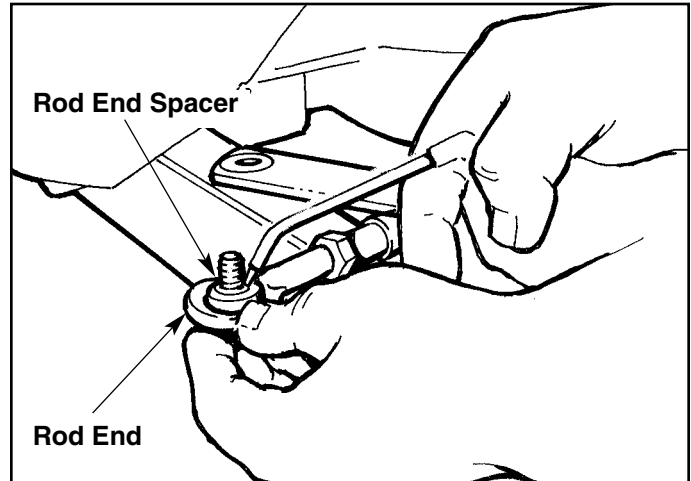

Figure A-14. Lubricate Rod End Spacer
3. Before reassembling rod end hardware to left hand steering arm, squirt a few drops of SAE 30 weight oil on the outer surface of the spacer (Figure A-14).